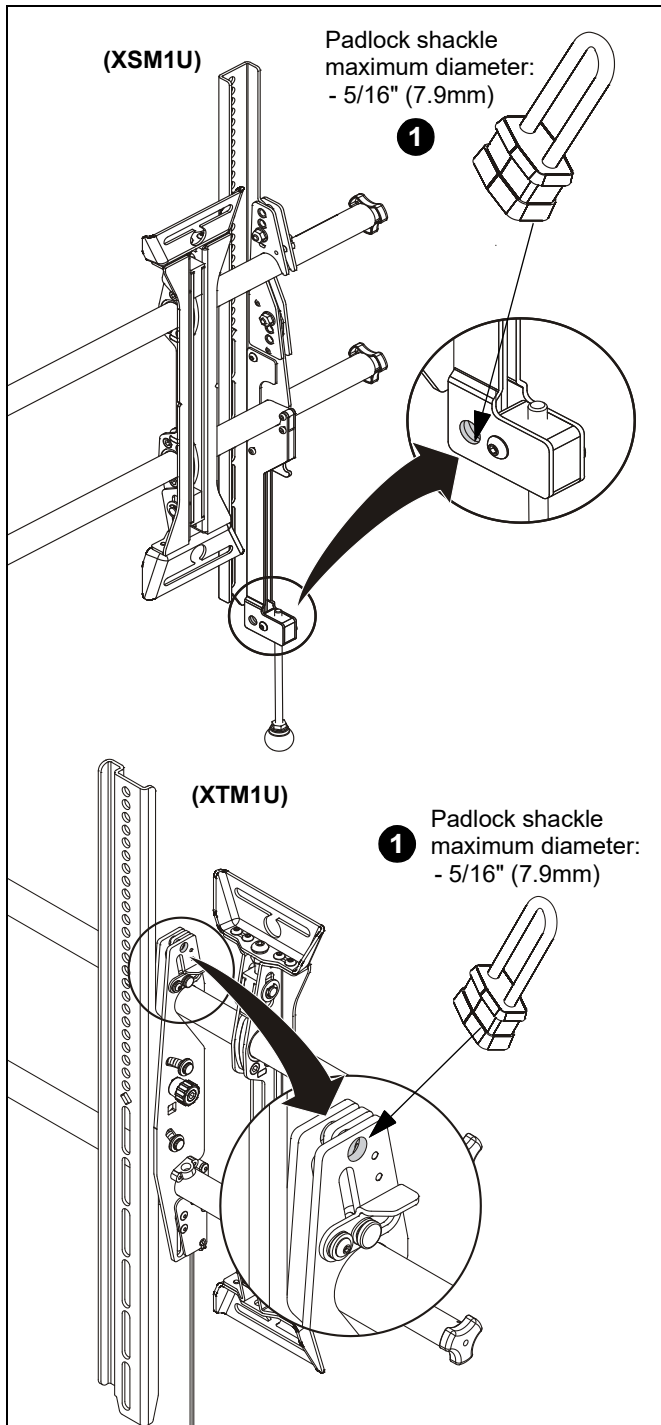

Figure 25
1. Add padlock (not included) to interface bracket to complete security. (See Figure 25)